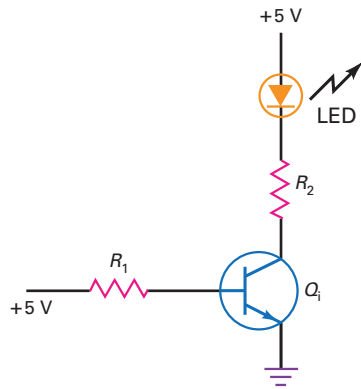

Figure 41-18 Circuit for prob. 41-1.
- 41.1 In Fig. 41-18, a +5-V signal is applied to the input of the transistor. The LED does not light.